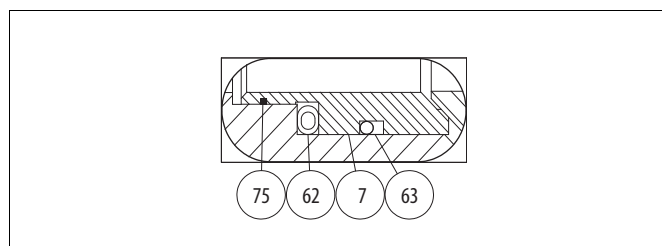

Fig. 29 P-seat
- ❑ Adjust the circular movement of the ball with the hexagon screws located at the side of the housing (see Figure 29). The stop-screw for the open position is nearest to the handwheel on the side of the housing and the screw for the closed position is at the opposite end. The turning directions for the handwheel are marked on the wheel.